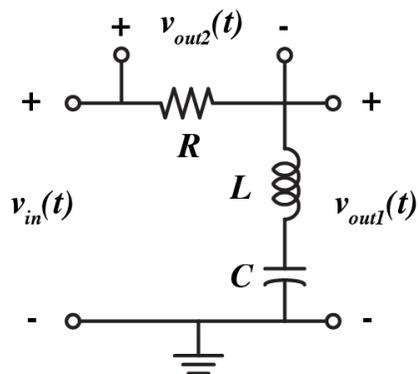

Figure 2: RLC filter
5. Consider the following RLC filter in Figure 2 with $R = 20k\Omega$, $L = 100H$, and $C = 1\mu F$. Please upload all of your work for this problem.